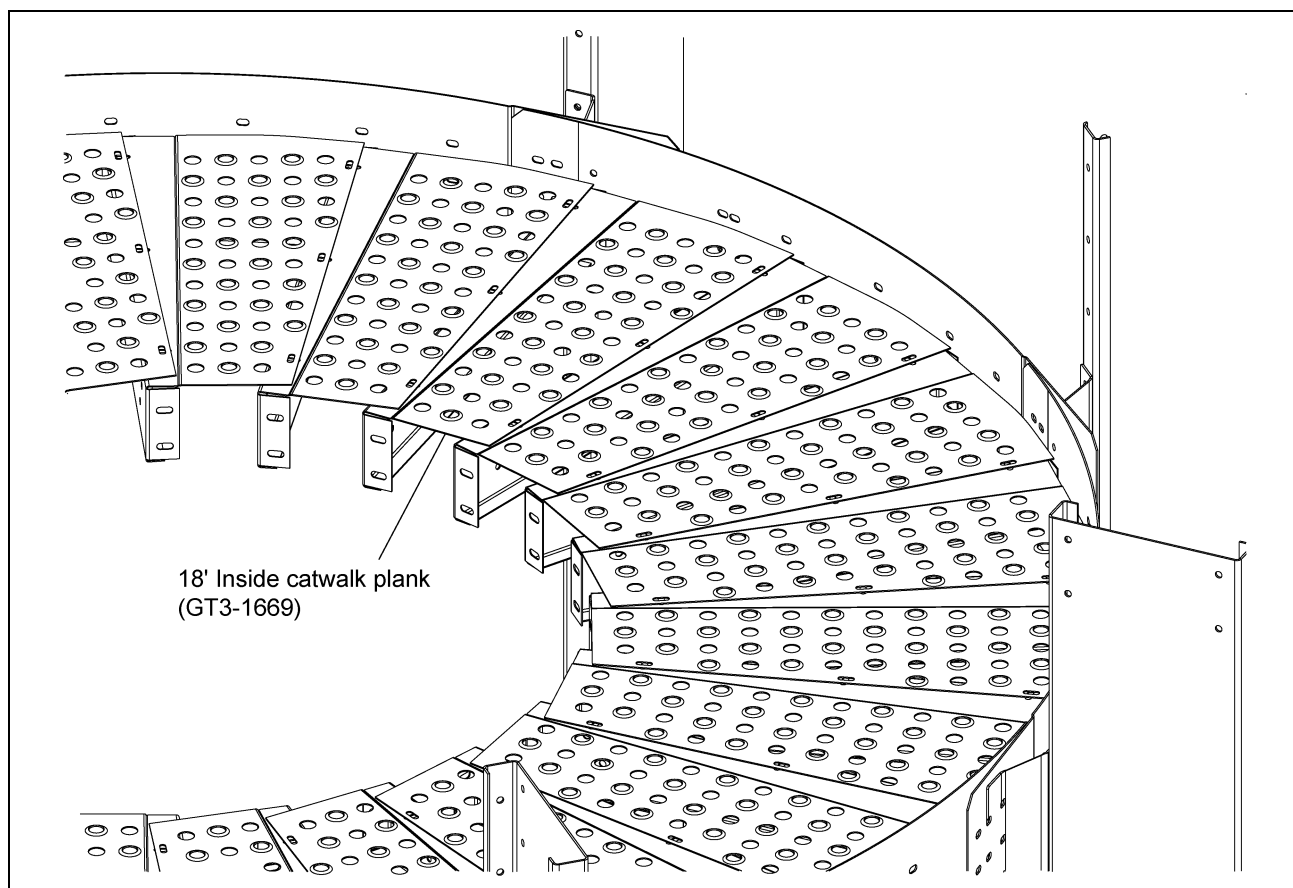

Figure 5G
3. Install all the planks (GT3-1669) continuously around the dryer. (See Figure 5G.)